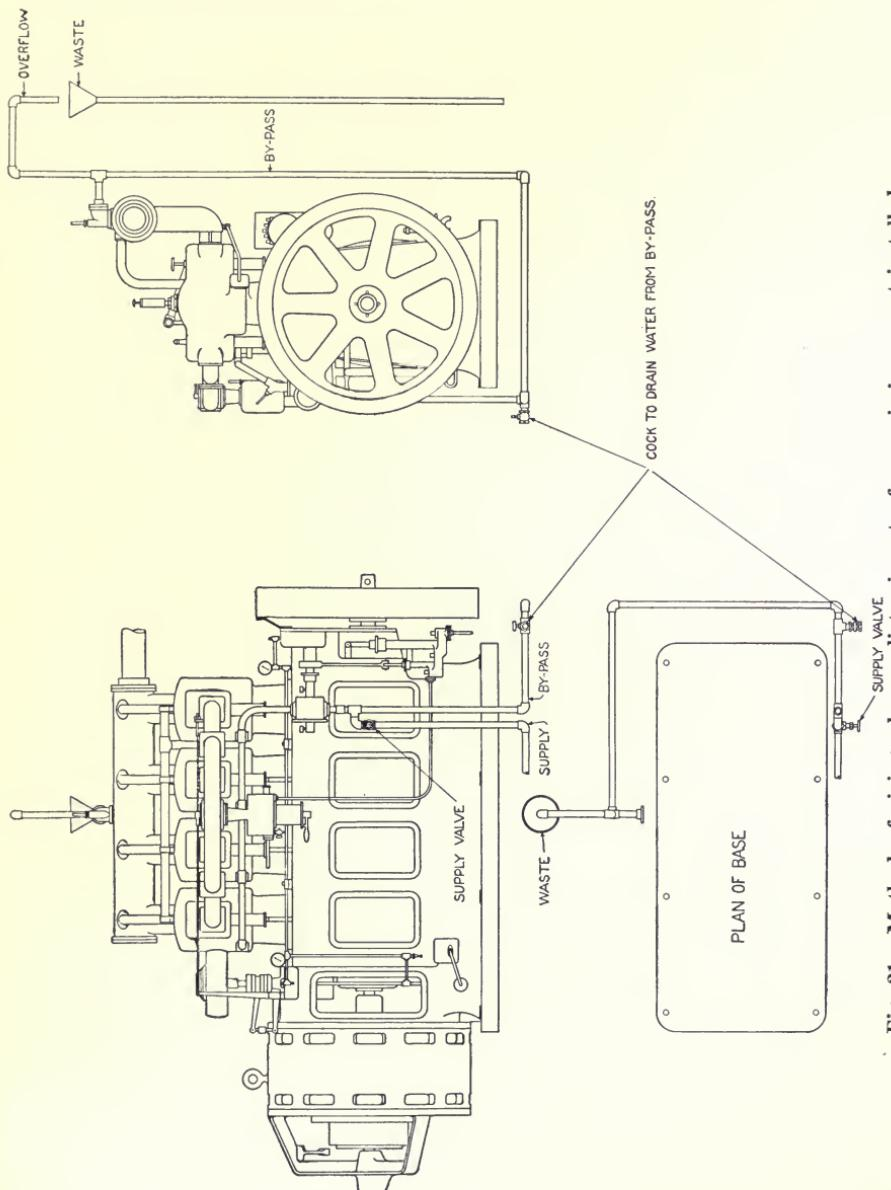

Fig. 21.—Method of piping when radiator is out of commission or not installed.
**36g. Where radiator is out of commission or not installed.**—While in most cases it is best to adhere to the typical method of installing the radiator and fan to cool the jacket water and thereby avoid the waste of water and the occurrence of new complications, it is possible to conceive of an emergency arising under which it may be desirable or necessary to use water drawn from the city or post water system (for example, when the fan or radiator is damaged). The proper method of arranging the piping in such cases and the only one which is recommended is shown in figure 21. The suction of the pump is connected to the discharge above the manifold, thus completely by-passing the engine. The supply is led into this by-pass just below the pump. A valve is placed in the supply before it reaches the by-pass. The waste pipe of the system should be carried up a few feet, and then across the ceiling to the point of discharge, thus giving the necessary head room. The waste pipe should be high enough to give a static head greater than friction head of the by-pass; i. e., with the supply valve closed and by-pass full of water, no water should appear at the overflow when the engine is in operation.